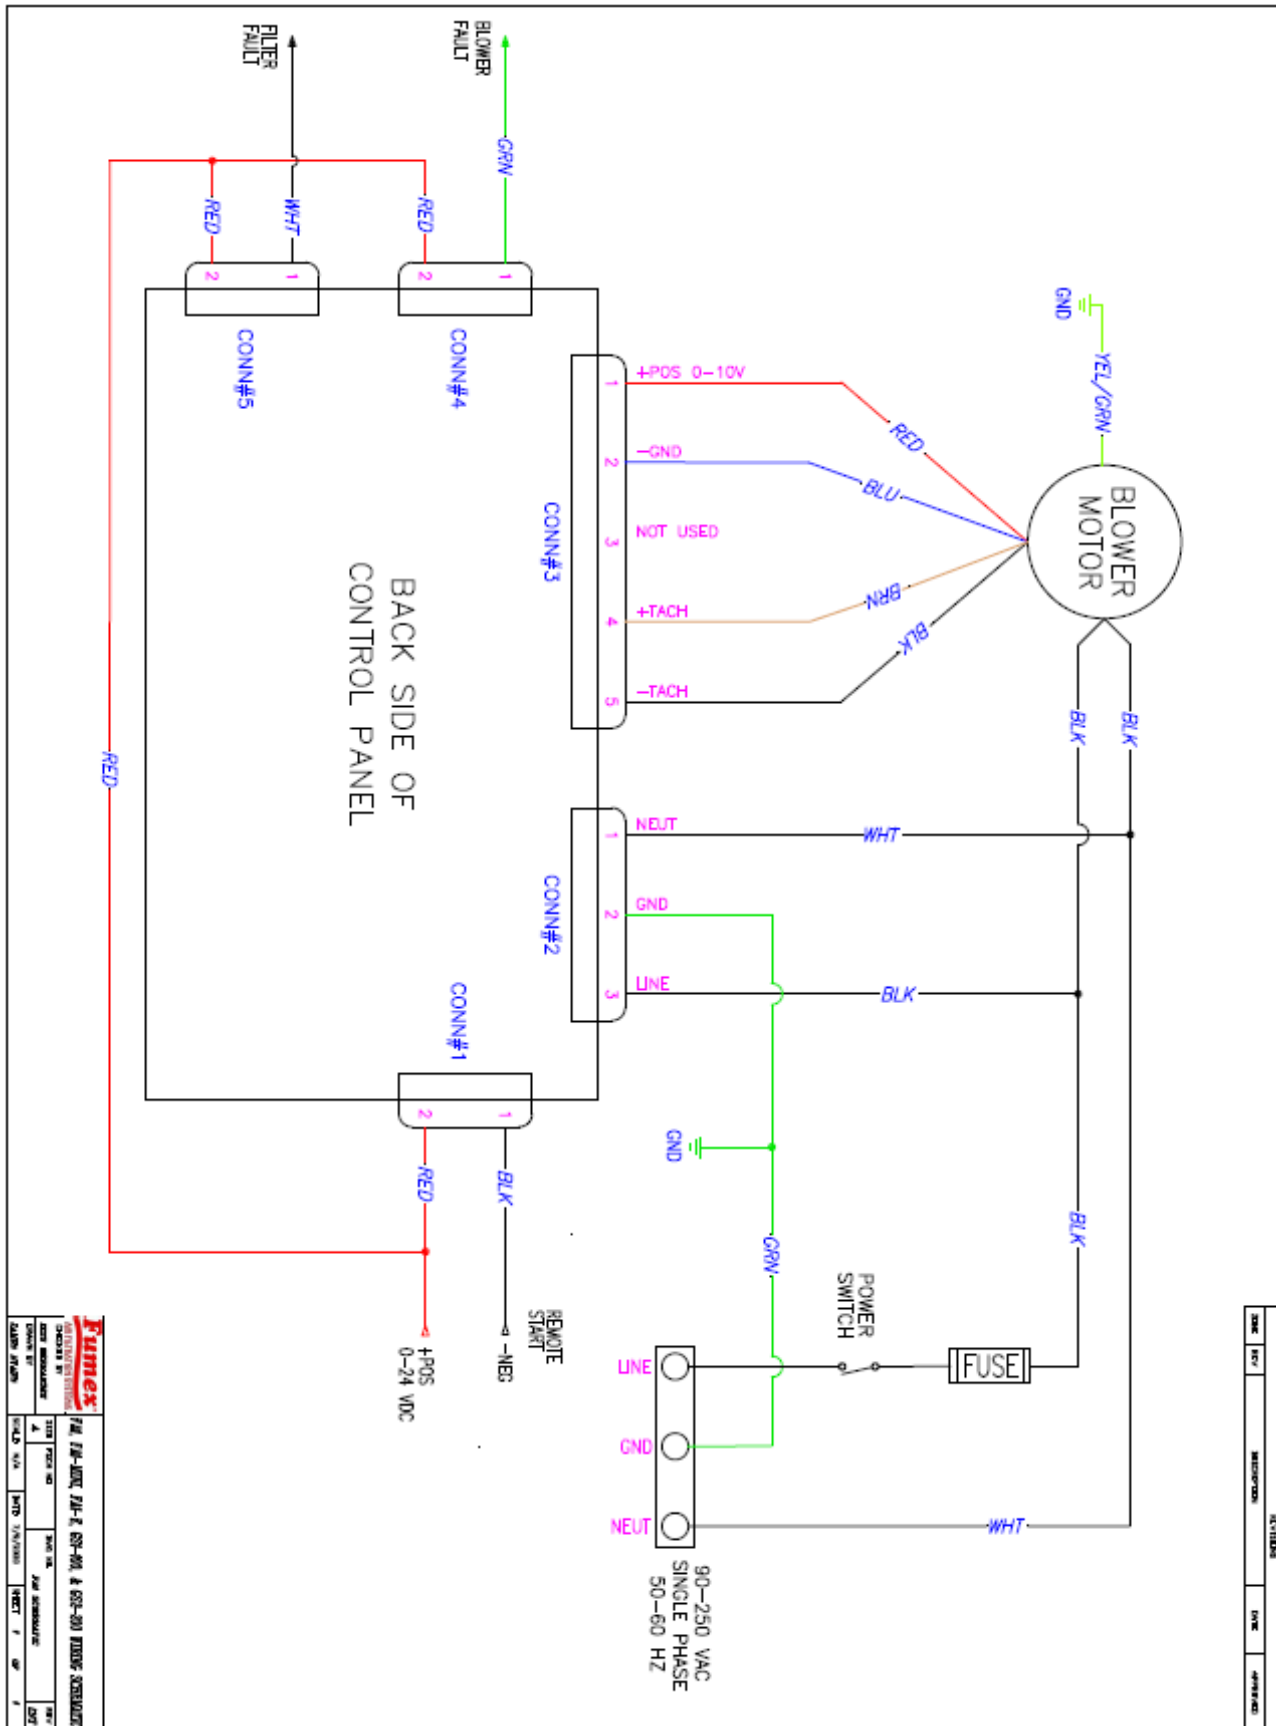

Figure 1
The FA1 can be supplied with an optional interface package providing remote start/stop and filter monitoring capabilities (Part # FA228). Please see instructions below for Relay Activation/De-Activation procedures and refer to the drawing in Figure 1 for remote connections.
3. Locate relay activation switch on the rear of the control panel as shown in Figure 1.